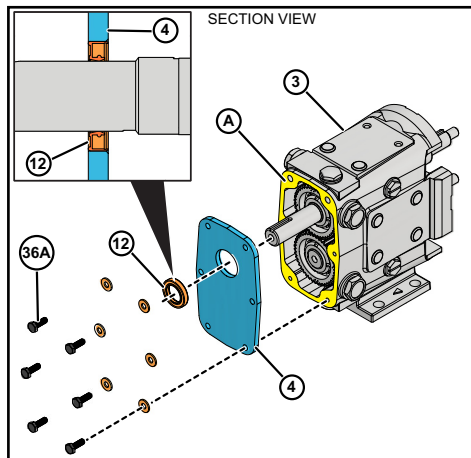

Figure 96 - Orientation of Oil Seal
1. Lubricate the inside diameter of a new oil seal (12).
2. Press the new oil seal (Figure 96, item 12) into the gear case cover (item 4) flush with the outside face, with the spring facing in.
3. Apply silicone sealant (A) to the back of the gear case (3). (Gore-Tex® sealing tape can be used on silicone-free models.) Place tape on the inside of the screw holes. (Figure 96, item A).